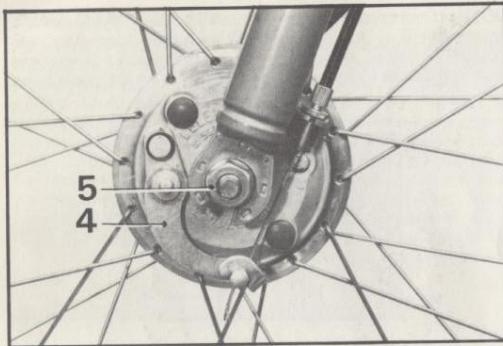

Fig. 13
- Disconnect the brake cable by pushing the brake arm upwards (4, Fig. 13) page 18, and unhooking the cable stop.
- Loosen the front axle nuts (5) and the wheel will drop out of the front fork ends.